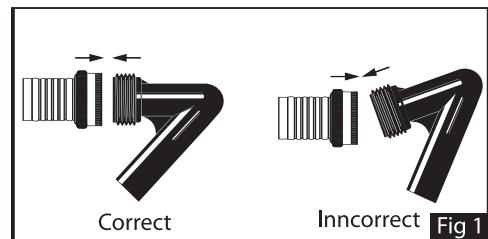

Fig 1
- 1) When attaching the garden hose to the hose reel out-tube be sure to attach correctly (Fig. 1). Cross-threading could cause permanent damage.